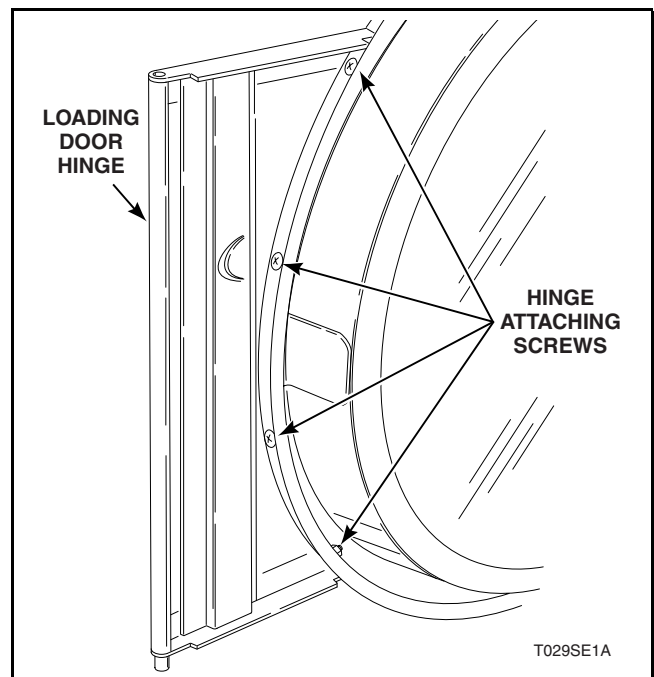

Figure 33
- Remove nuts and screws holding hinge to door frame. Refer to *Figure 33*.